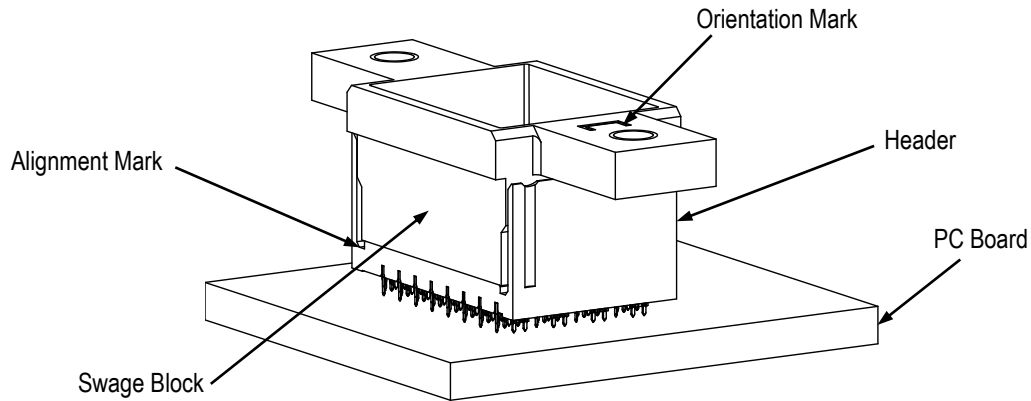

Figure 2
3. Place the swage block onto the header to be removed. Orient the swage block as shown in Figure 2.